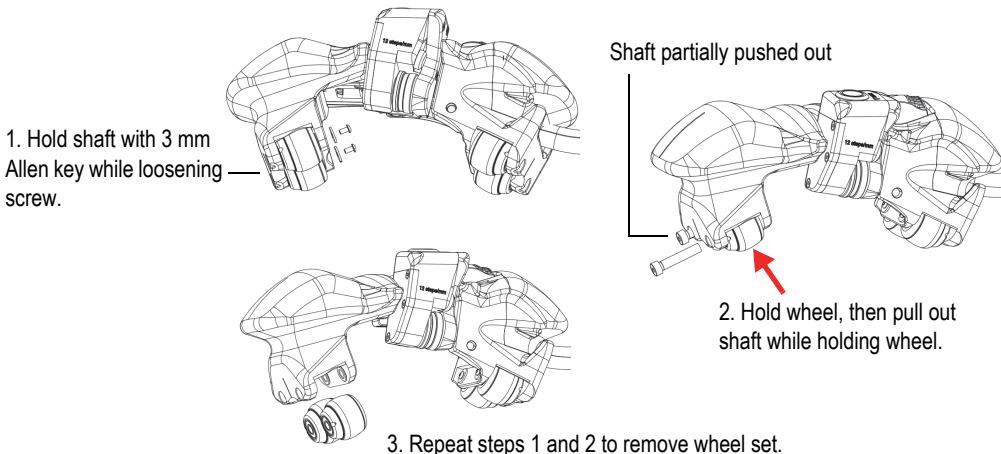

Figure 5-1 Changing a wheel
1. Use a 3 mm Allen key to hold the shaft and a 2 mm Allen key to remove the screw on the wheel you want to replace (see Figure 5-1 on page 48).